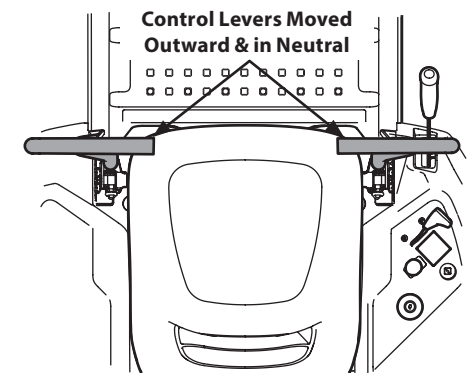

Figure 3-2
- Operator must be sitting in the tractor seat with the drive control levers fully outward in neutral (parking brake on). See Figure 3-2.